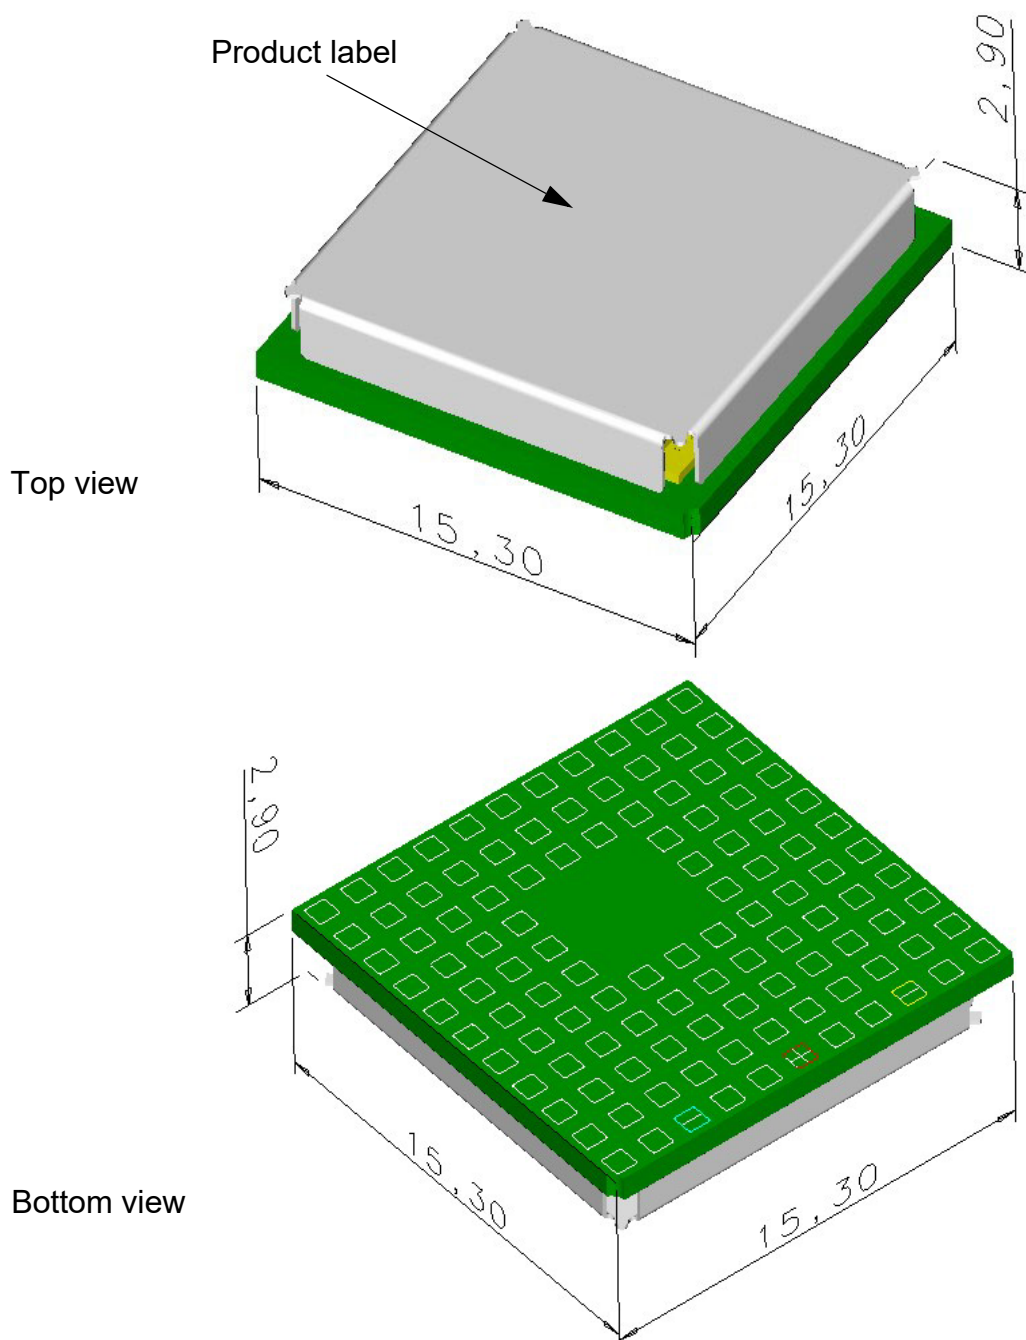
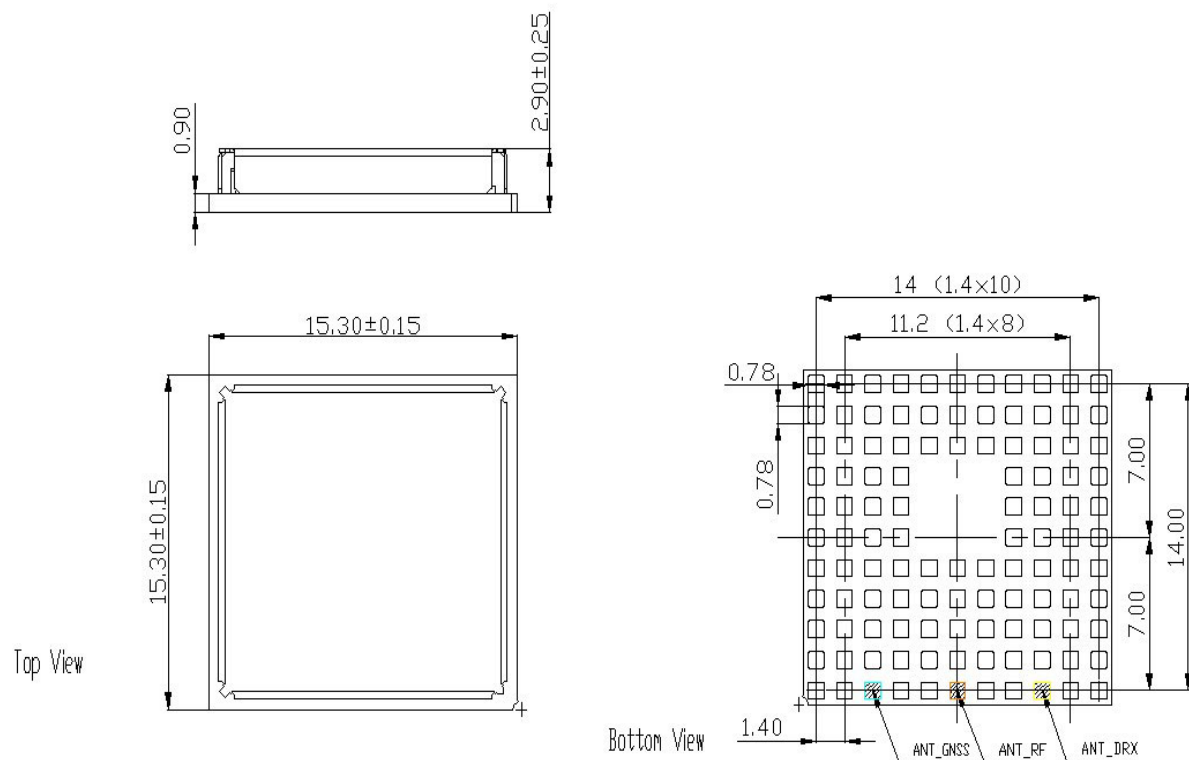
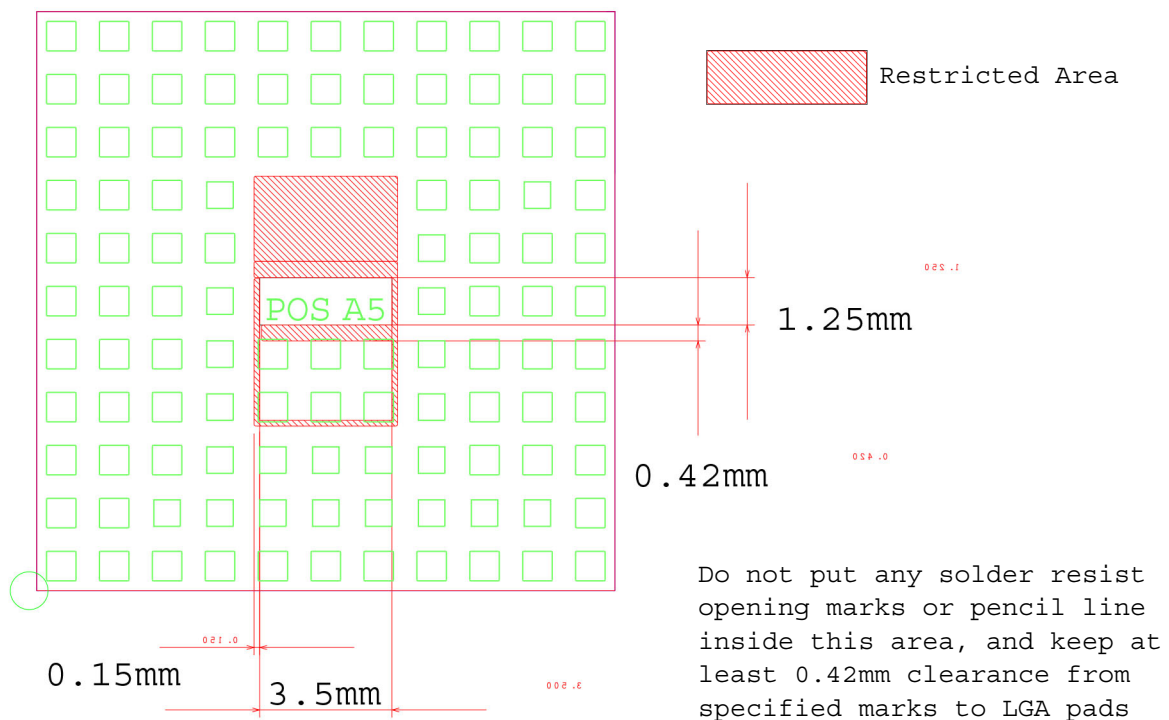

Figure 52: TX62-W– top and bottom view
Figure 53: Dimensions of TX62-W (all dimensions in mm)
Figure 54: Dimensions of area for possible markings TX62-W (bottom view)
Figure 52 shows the top and bottom view of TX62-W and provides an overview of the board's mechanical dimensions. For further details see Figure 53. Figure 54 shows the area at the module's bottom side where possible markings might be printed.
**Note:** To avoid short circuits between signal tracks on an external application's PCB and various markings at the bottom side of the module (see Figure 54 and Figure 57), it is recommended not to route the signal tracks on the top layer of an external PCB directly under the module, or at least to ensure that signal track routes are sufficiently covered with solder resist.